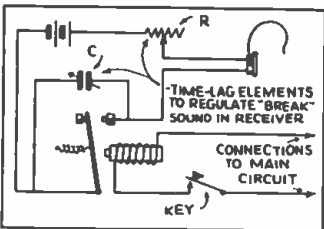

Fig. 4. Secret telegraph.
**SECRET TELEGRAPH.** A circuit for receiving telegraph "clicks" without a sounder is shown in Fig. 4; C and R are adjusted until the correct sound is obtained in the headphone. This arrangement may be used where secrecy is desired.